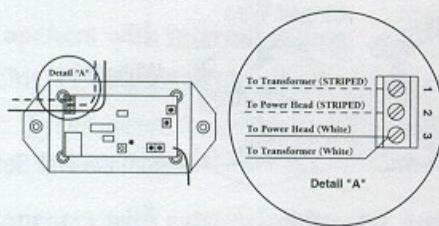

Figure 4-3
- **CONNECT** the STRIPED Wire to terminal 1. (Figure 4-3)
- **CONNECT** the WHITE Wire to terminal 3. Now tighten the screw. (Figure 4-3)